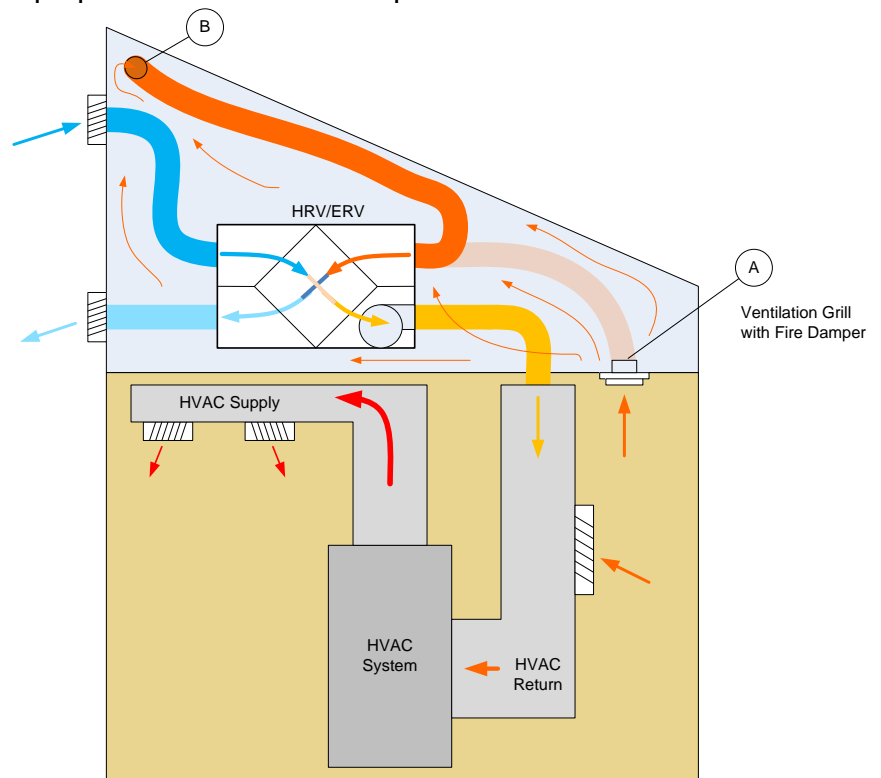

FIGURE 9 - Extended Ventilation using HRV/ERV System
For extended ventilation, a smaller exhaust-only system may be used where the outlet of the exhaust only system is positioned in a proper location. Another option is to use a heat recovery ventilator (HRV) or energy recovery ventilator (ERV) installed inside the containment area, which is an example of an energy-efficient means to provide extended ventilation (shown in Figure 9). If this option is utilized, the exhaust line is disconnected from the vent opening (A), a fire-damper grille is installed on the opening, and the exhaust line is positioned in the attic (B) far from the disconnected vent. Read and follow the HRV/ERV manufacturer's recommendations if this extended ventilation option is utilized. This configuration can provide extended ventilation for several days after which the contractor re-installs the exhaust duct when the extended ventilation is complete.